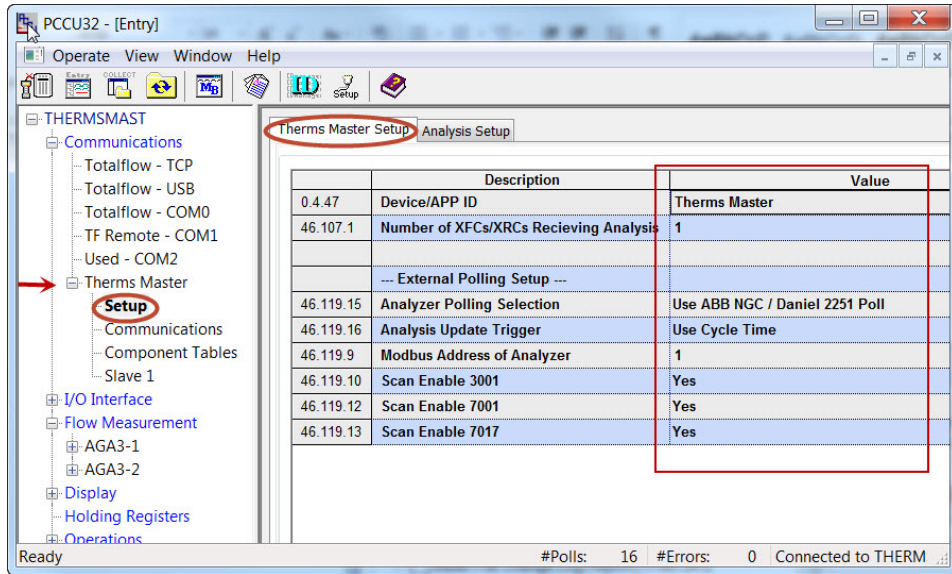

Figure 24. Therms Master general setup
- 1) Go to *Therms Master > Setup > Therms Master Setup tab* (see Figure 24).